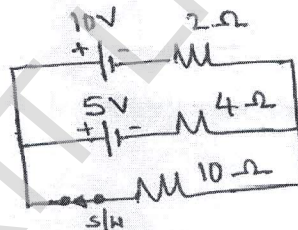

Fig. Q2 (a)
2. a. For the circuit shown in Fig. Q2 (a), find